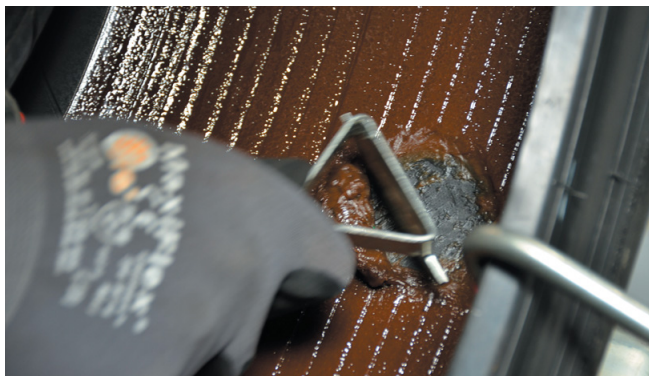

Fig. 2
2. Using a tire scraper, penetrate the sealant resin and pull/push it to the side in an area large enough to accept the patch material. (Fig. 2).